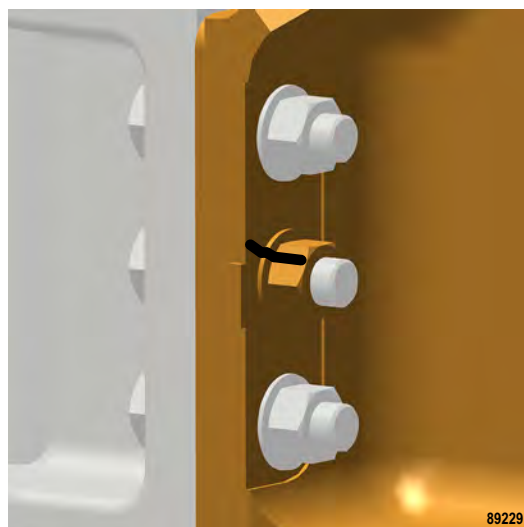

FIGURE 50-14. REFERENCE LINE FOR PROPER TORQUE
9. Draw a reference line across the nut, washer, and frame. See Figure 50-14.